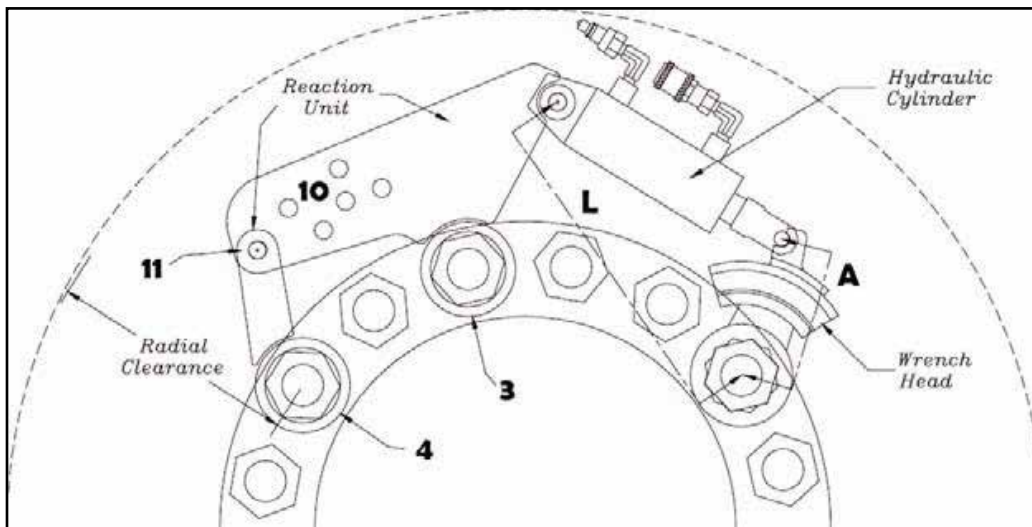

Figure 7
6. Place the wrench head (1) on any bolt on the flange.
7. Place the ring of the reaction plate (3) around the bolt which would satisfy the following criteria:
- a. The distance (L) should be correct.
- b. The wrench head (1) should be able to rotate 60° without interfering with an adjacent bolt.
8. Place the ring on the reaction plate (3) around the bolt which would result in the proper set-up.
9. Place the ring of the reaction leg (4) around the bolt which would allow the hole (11) on the leg to align with any hole (10) on the plate. Insert the bolt (5) through the two holes and tighten the nut (6). See Figure 7.